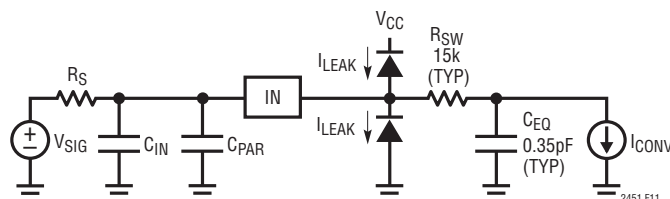

Figure 11. LTC2451 Input Drive Equivalent Circuit
The input drive requirements can best be analyzed using the equivalent circuit of Figure 11. The input signal, V_{SIG} , is connected to the ADC input pin (IN) through an equivalent source resistance R_S . This resistor includes both the actual generator source resistance and any additional optional resistors connected to the input pin. An optional input capacitor, C_{IN} , is also connected between the ADC input pin and GND. This capacitor is placed in parallel with the ADC input parasitic capacitance, C_{PAR} . Depending on the PCB layout, C_{PAR} has typical values between 2pF and 15pF. In addition, the equivalent circuit of Figure 11 includes the converter equivalent internal resistor, R_{SW} , and sampling capacitor, C_{EQ} .